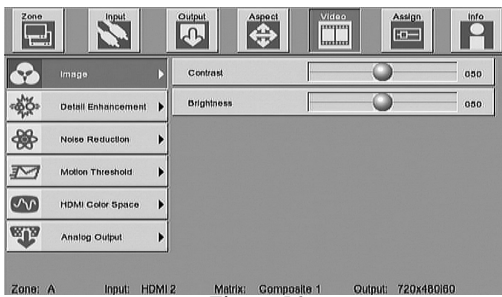

Figure 56
2. Press the ▼DOWN Push-button to highlight the Image Icon. Refer to figure 56 on the next page.